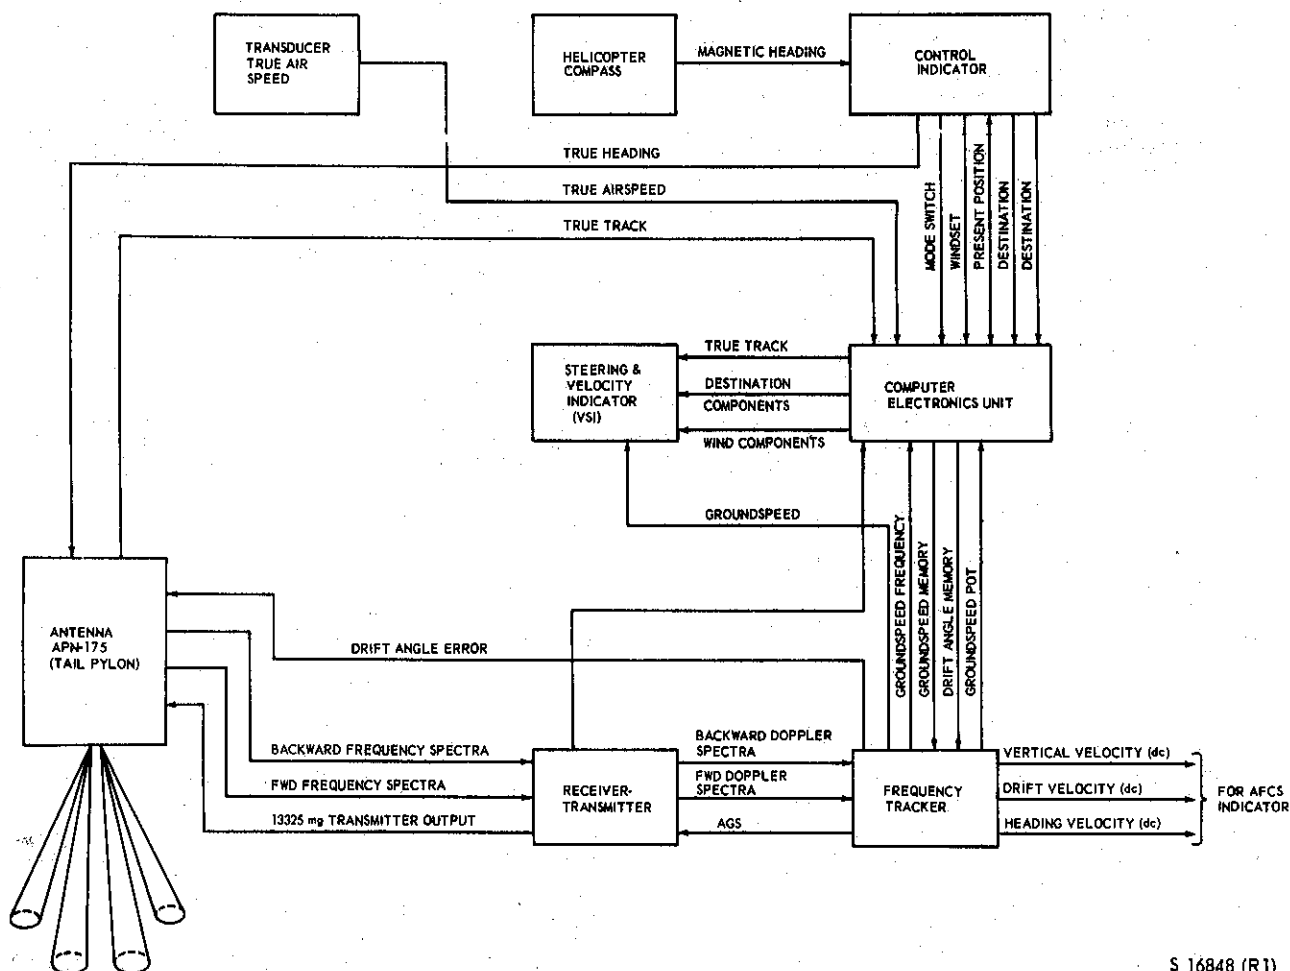

Figure 4-12. Navigation Set, Radar, System Block Diagram
Helicopters CH-3E **16** and HH-3E **25** are equipped with a navigation set, radar. The navigation set consists of sensor group and a doppler computer group. The system is augmented by magnetic heading information from the J-4 compass system, a true airspeed transducer, and AFCS vertical gyro inputs to stabilize the antenna of the sensor group in pitch and roll (figure 4-12). The AFCS indicators are also utilized to reflect along track, across track, and vertical velocity displays in the hover mode of operation, below 25 knots ground speed. Along track information is displayed by the horizontal bar and across track information is displayed by the vertical bar, each circle representing 5 knots groundspeed. Vertical velocity information is displayed by the left-hand pointer, with each division representing 500 feet per minute. HH-3E helicopters **32** or those helicopters modified by T.O. 1H-3-611 are equipped with a radar altimeter set AN/APN-171(V) that eliminates the present altimeter function of the AN/APN-175(V)-2 and the altitude indicators.